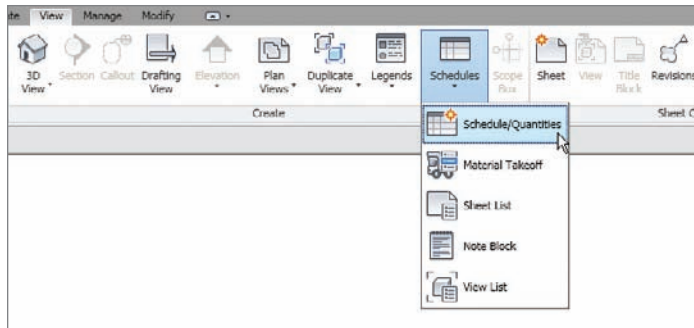

FIGURE 11.1 Click the Schedule/Quantities button on the View tab.
2. On the Create panel of the View tab, click the Schedules > Schedule/Quantities button, as shown in Figure 11.1.